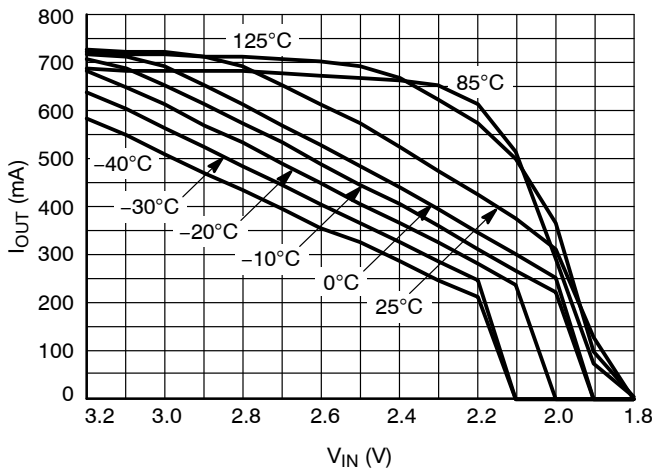

Figure 21. Output Current Capability for the 1.8 V Version
24. For output current capability for T_A < 0 °C, please refer to Figure 21.